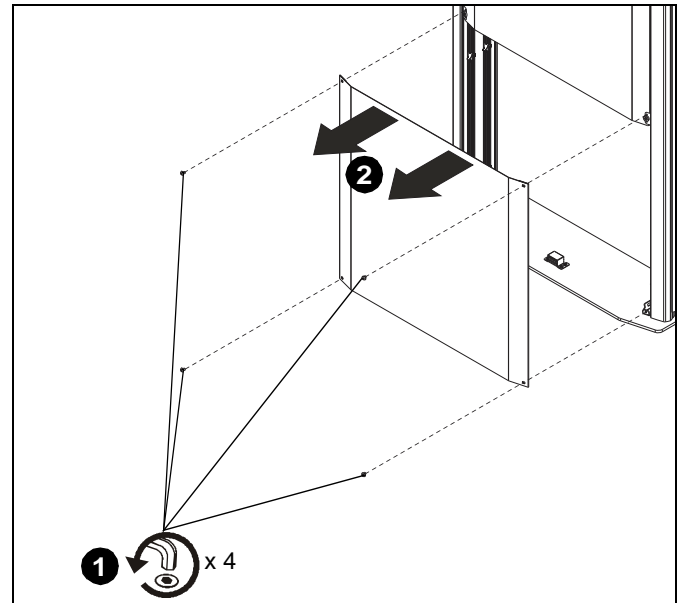

Figure 14
1. Remove lower cover to expose floor holes. Refer to Cover Removal Section for details. (See Figure 14)
1. Remove four button head cap screws holding lower front cover to stand. (See Figure 14)
2. Pull lower front cover away from stand. (See Figure 14)